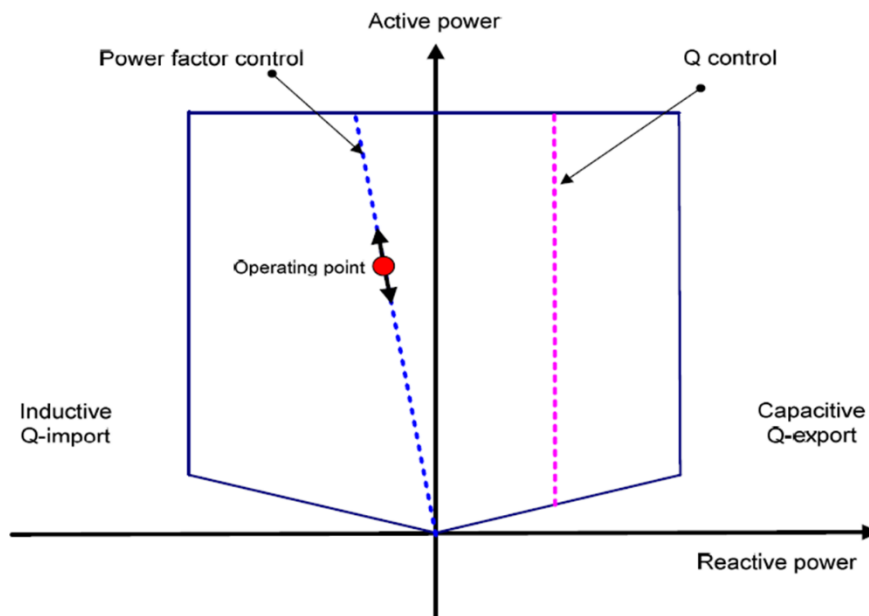

Figure 3 - Power factor and constant reactive power mode of operation
**Example:** Figure 3 shows the voltage droop control of a generator with 0.95 power factor leading and lagging capability. In the example, there is a target of 1pu and a slope of 4%. Therefore, if the point of connection voltage is at 1pu then the generator will operate at unity power factor (0 Mvar) at the point of connection. If the point of connection voltage drops to 0.96pu, then the generator will export Mvar equivalent to 0.95 power factor (calculated based on rated MW). Conversely, if the voltage at the point of connection voltage increases to 1.04pu then the generation plant will import Mvar equivalent to 0.95 power factor.